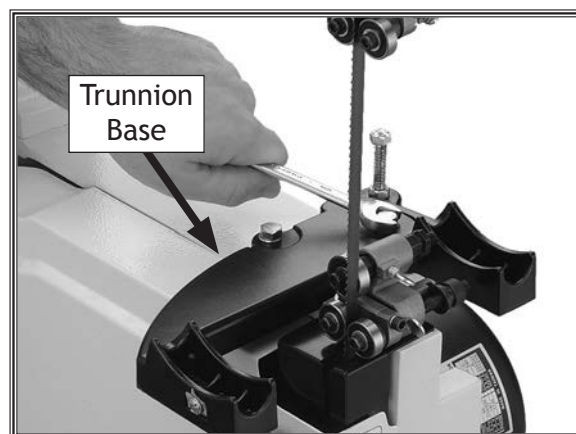

Figure 8. Installing the trunnion base.
4. Position the trunnion base on the bandsaw body as shown in **Figure 8**, then secure it in place with (2) $\frac{5}{16}$ "-18 x $1\frac{1}{4}$ " hex bolts and $\frac{5}{16}$ " lock washers.